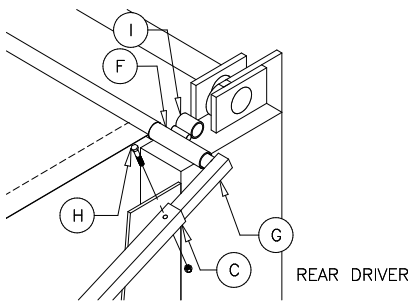
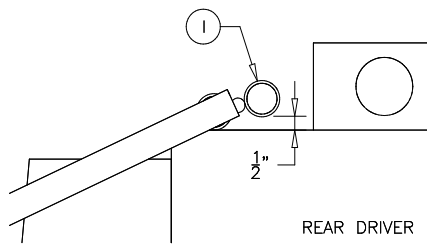
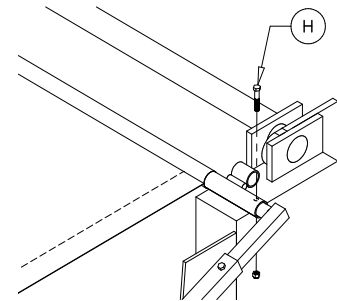

Figure 17
Figure 18
Figure 19
Using a 5/16" drill bit, drill through the bottom and top pivot arm on both sides of the box. Secure the pivot arms with the 5/16"x1-3/4" hex bolt (H) and 5/16" nylon lock nut provided (see Figure 17). Adjust the pivot arms so they are aligned with the sides of the box. Rotate the rear pivot arm cross-member (F) so that the cross-member guides (I) are approximately 1/2" above the top of the box (see Figure 18). Using a 5/16" drill bit, drill through the pivot arm cross member (F) and top pivot arm (G). Secure the pivot arm cross-member to the top pivot arms with the 5/16"x1-3/4" hex bolts (H) and 5/16" nylon lock nuts provided (see Figure 19).